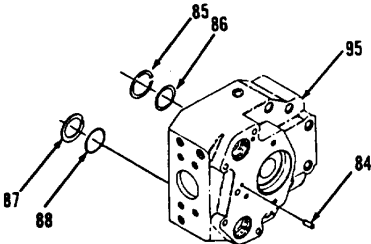
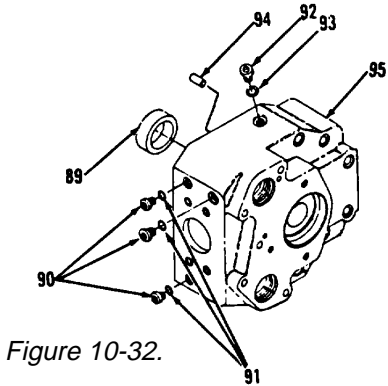

Figure 10-31.
Figure 10-32.
- 49. Install two dowels (94) in head (95, Figure 10-32).
- 50. Install five new preformed packings (93), plugs (92), three new preformed packings (91) and plugs (90).
- 51. Lower temperature of bearing cup (89) and install in head (95).
- 52. Install three new preformed packings (88), rings (87), four new preformed packings (86) and rings (85) in head (95, Figure 10-31).
- 53. Install two pins (84).